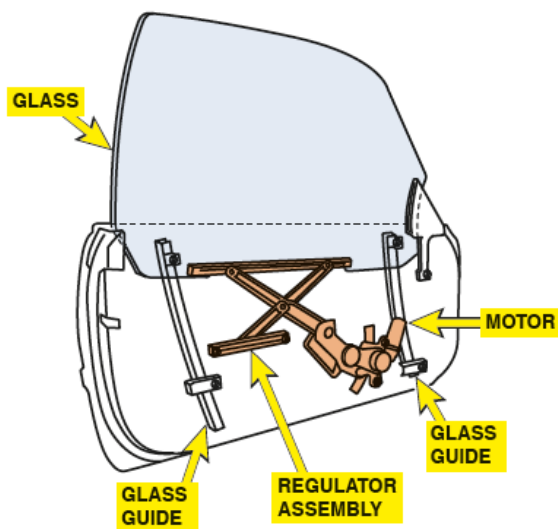

Figure 1. An electric motor and a regulator assembly raise and lower the glass on a power window.
*Power windows* use electric motors to raise and lower door glass. They can be operated by both a master control switch located beside the driver and additional independent switches located at each electric window. Figure 1.